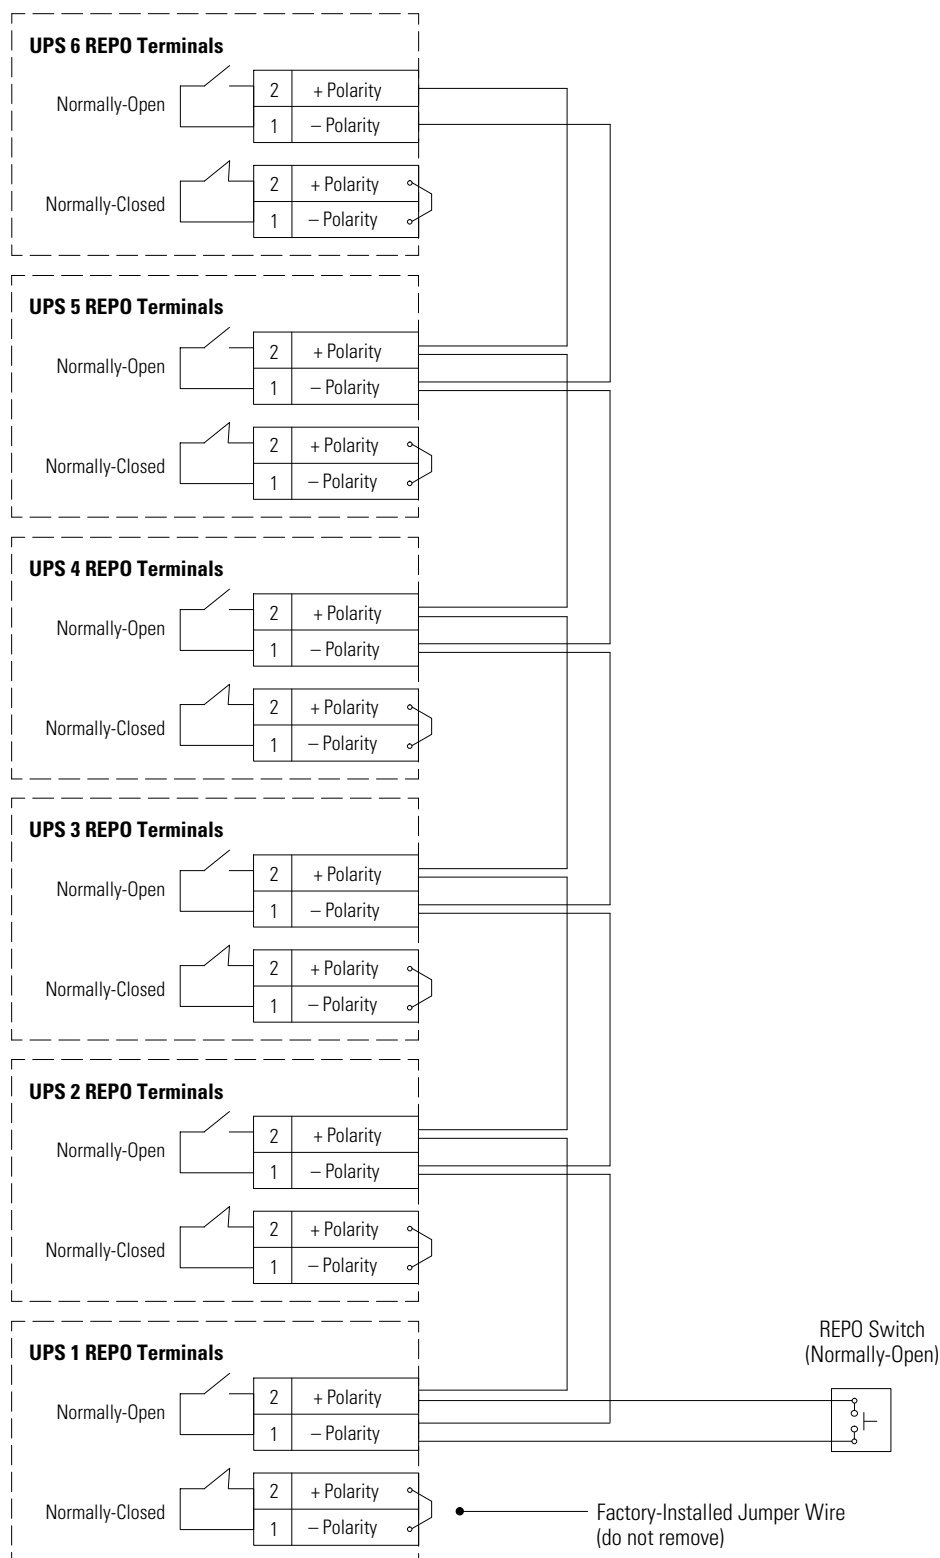
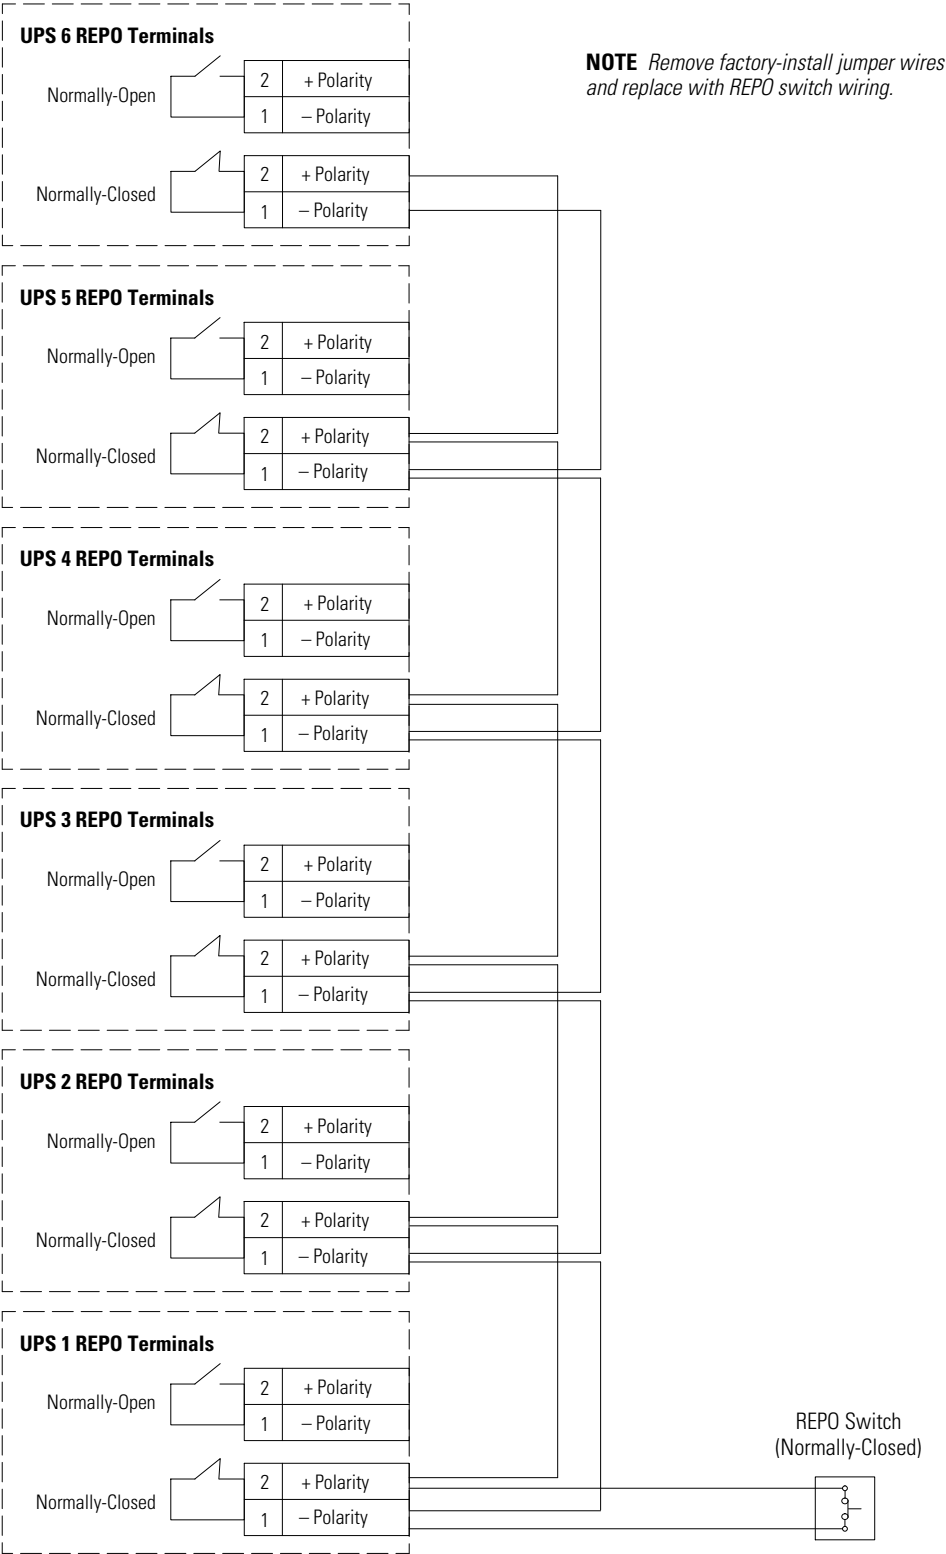

Figure 80. Normally-Open REPO Switch Wiring in a Parallel System
Figure 81. Normally-Closed REPO Switch Wiring in a Parallel System
3. Connect Pin 1 to Pin 1 and connect Pin 2 to Pin 2 of each UPS in parallel for the selected REPO contacts, then connect the appropriate external switch to the selected REPO contact. See Figure 80 for NO REPO wiring and Figure 81 for NC REPO wiring.